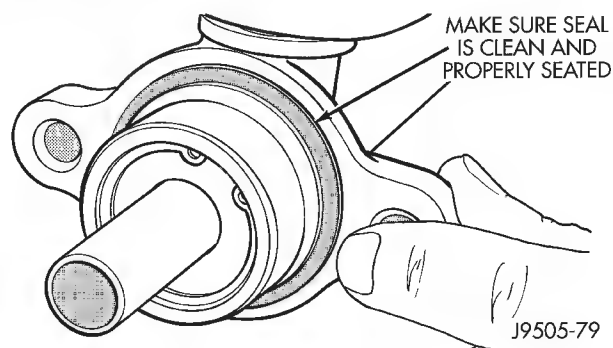

Fig. 22 Checking Master Cylinder Seal
(1) Bleed master cylinder on bench before installation. Refer to procedure in this section.
(2) If new master cylinder is being installed, remove plastic protective sleeve from primary piston shank.
(3) If original master cylinder is being installed, check condition of seal at rear of master cylinder (Fig. 22). Clean and reposition seal if dislodged. Replace seal if cut, or torn.